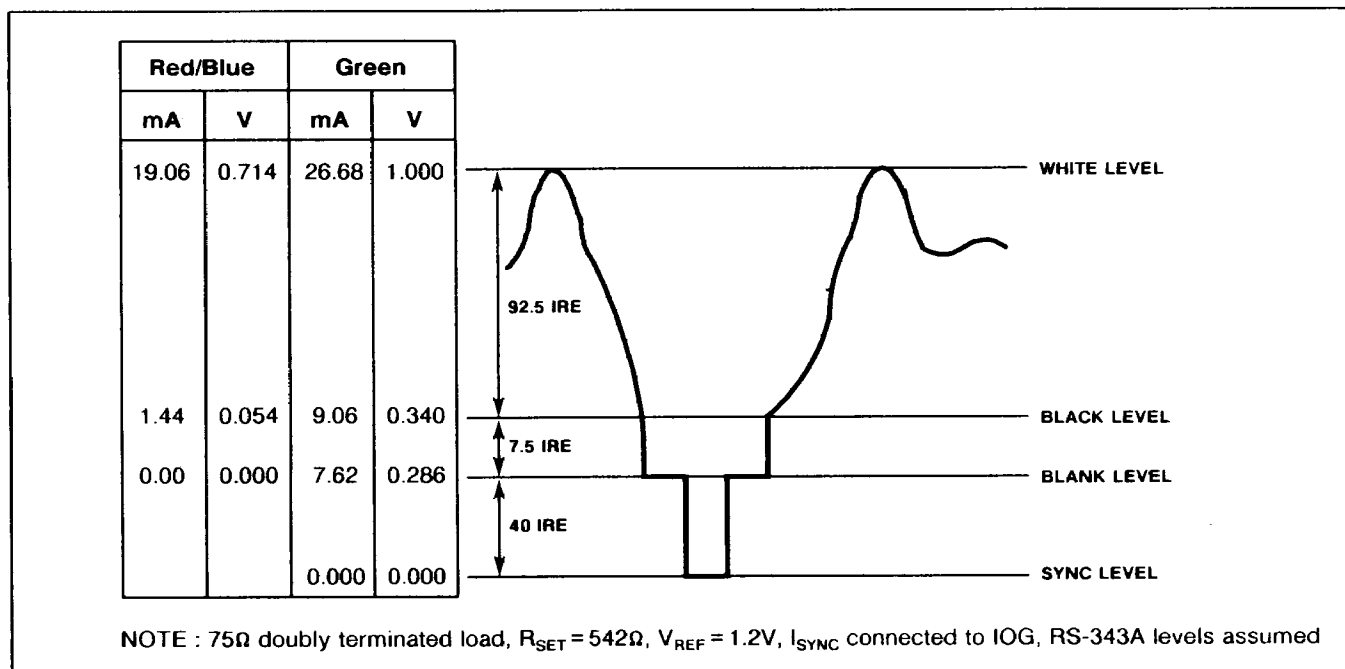

Fig.3 Composite video output waveform
SYNC and BLANK are latched on the rising edge of the clock to maintain synchronisation with the colour data. These inputs add appropriately weighted currents to the analog outputs, producing the specific output levels required for video applications as shown in Fig. 3. Table 1 details how the SYNC, BLANK and REF WHITE inputs modify the output levels.
FS ADJUST	Full scale adjust control. A resistor (R SET ) connected between this pin and AGND controls the magnitude of the full video signal (Fig. 3). The current flowing in the R SET resistor is equal to 32 LSBs. Note that the IRE relationships in Fig. 3 are maintained, regardless of the full scale output current. The relationship between R SET and the full scale current on IOG (assuming I SYNC is connected to IOG) is: $\text{IOG (mA)} = 12082 \times \frac{V_{\text{REF}} \text{ (V)}}{R_{\text{SET}} \text{ (}\Omega\text{)}} \cong 387 \text{ LSBs}$ The full scale output current on IOR and IOB for a given R SET is defined as: $\text{IOR, IOB (mA)} = 8624 \times \frac{V_{\text{REF}} \text{ (V)}}{R_{\text{SET}} \text{ (}\Omega\text{)}} \cong 276 \text{ LSBs}$